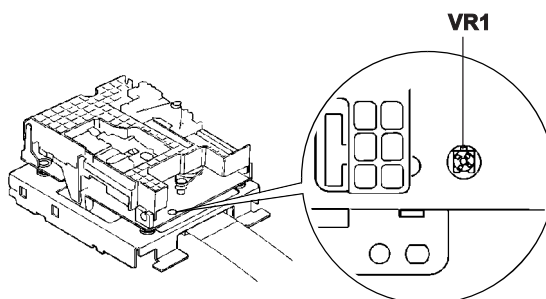

Fig. 4
4. Confirm that the reading of the laser power meter or cartridge type laser power meter is within the specified range. If it is not within the specified range, adjust by turning VR1 (see Fig. 4).
6. Confirm that the reading of the laser power meter or cartridge type laser power meter is within the specified range. If it is not within the specified range, adjust by turning VR1 (see Fig. 4).